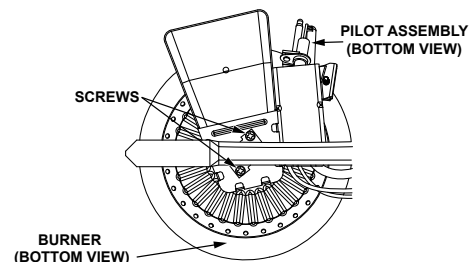

FIGURE 22.
1. Take off the burner by removing the two (2) screws located underneath the burner.
2. Check the burner to see if it is dirty or clogged. The burner may be cleaned with soap and hot water (Figure 22). **IMPORTANT:** DO NOT remove the orifice.
8. Using the pilot screw removed earlier, attach the new pilot/thermopile assembly and the pilot shield. Reattach the burner to the manifold using the screws removed earlier. **NOTE:** Make sure the burner scoop is oriented to the pilot side of the manifold tube (Figure 22).